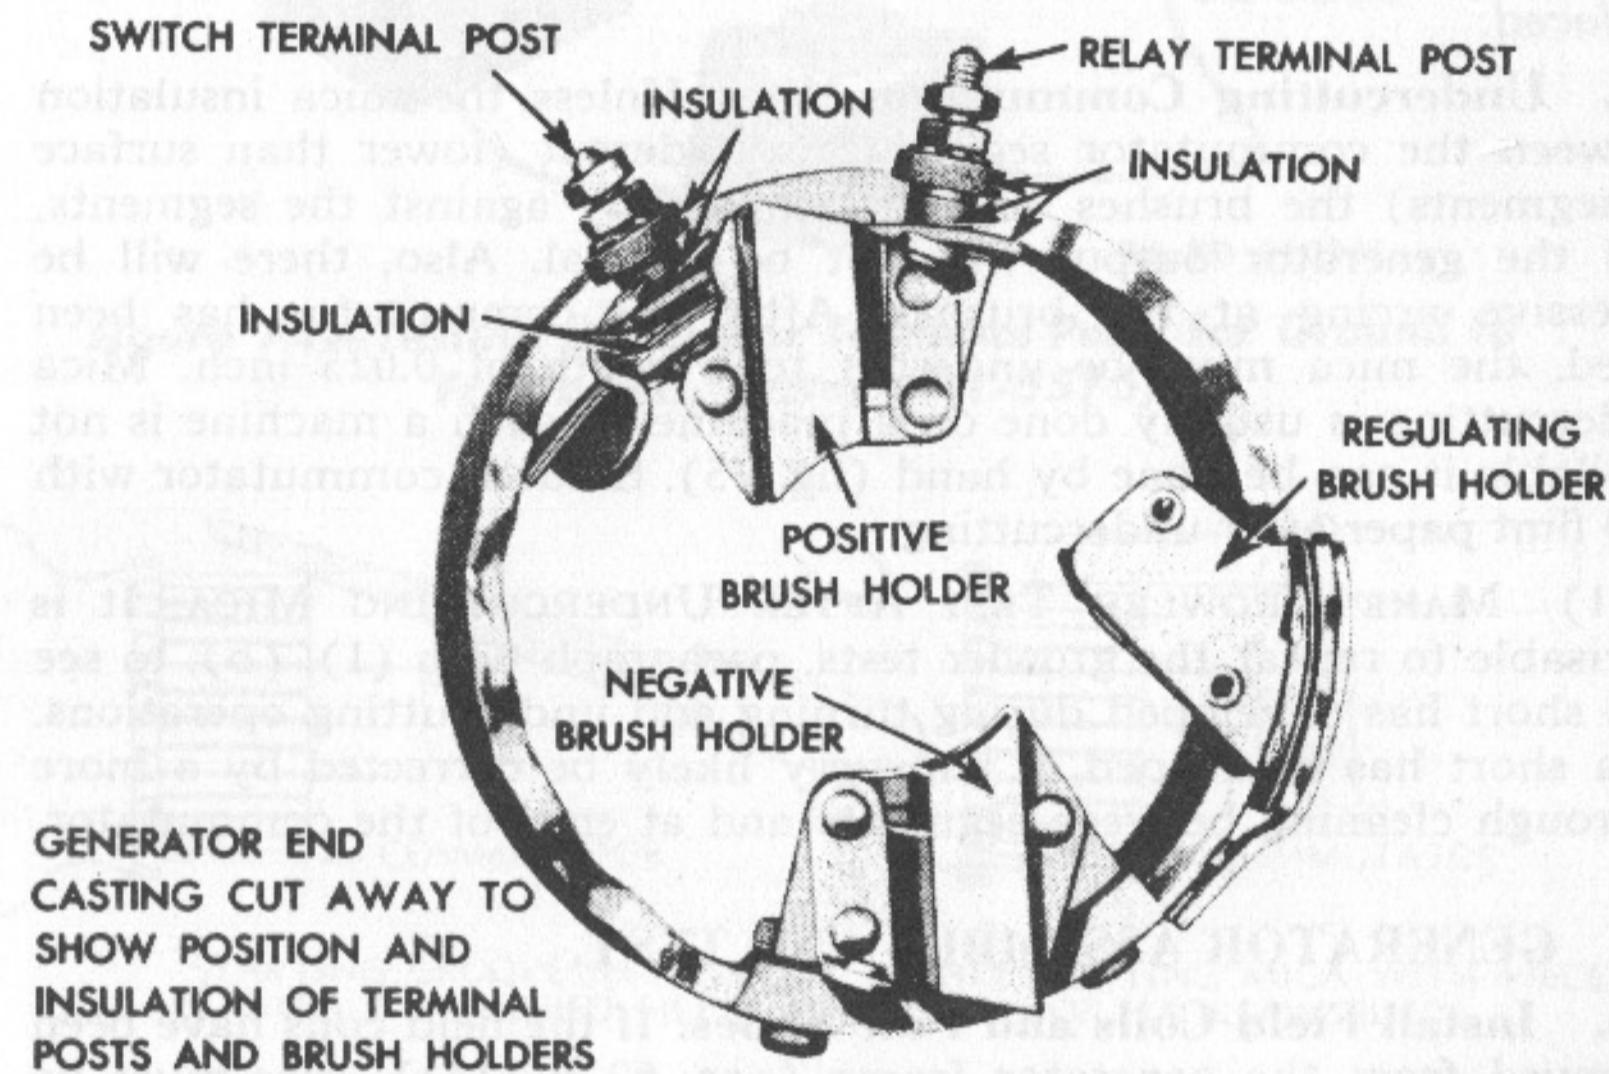

Figure 76—Generator End Section Showing Terminal Post and Brush Holder Installation
(1) **NEGATIVE BRUSH HOLDER** (fig. 76). The positive and negative brush holders are interchangeable. The installation difference being that the positive brush holder is insulated from the generator frame end, and the negative brush holder is in contact (grounded) with the frame end.
(2) **RELAY TERMINAL POST, SWITCH TERMINAL POST, POSITIVE BRUSH HOLDER AND SHUNT FIELD COIL TERMINAL PLATE INSTALLATION** (fig. 76). Both the relay and switch generator terminal posts